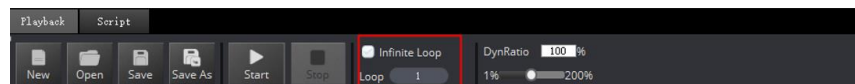

Figure 6.8 The loop number of the saved points list
- Set the loop number of the saved point when implementing playback. The maximum value is 9999. You can also select **Infinite Loop** to make Dobot M1 in the infinite loop state when implementing playback according to the saved points list, as shown in Figure 6.8.